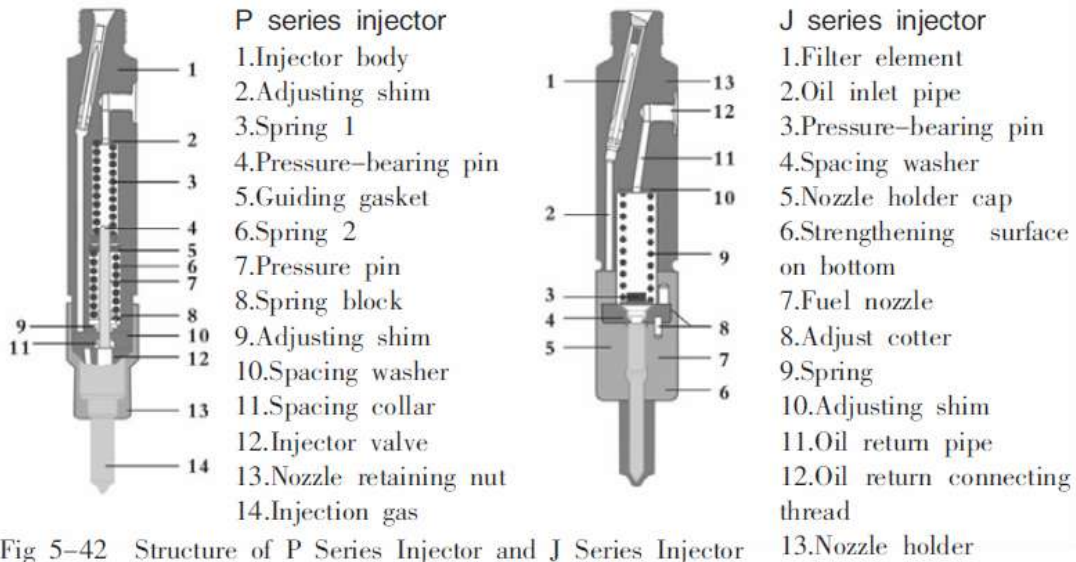

Fig 5-42 Structure of P Series Injector and J Series Injector
5.7 GENERGY series diesel engines use J series and P series injectors (see Fig 5-42). The opening pressure of J series injectors is 19.6-20.8 MPa. The opening pressure of P series injectors is 25-26.2MPa. Adjust or replace the matching parts on the test-bed by professionals.